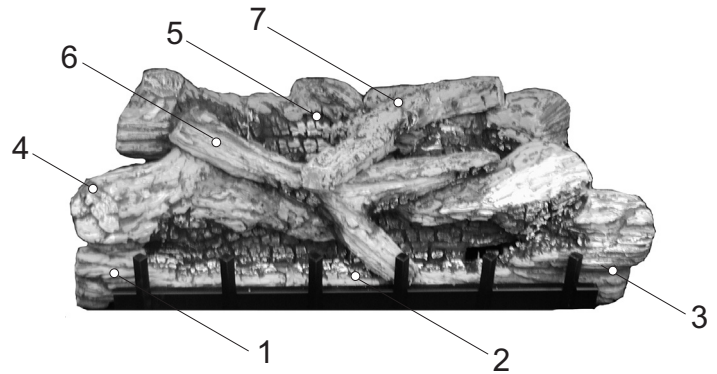
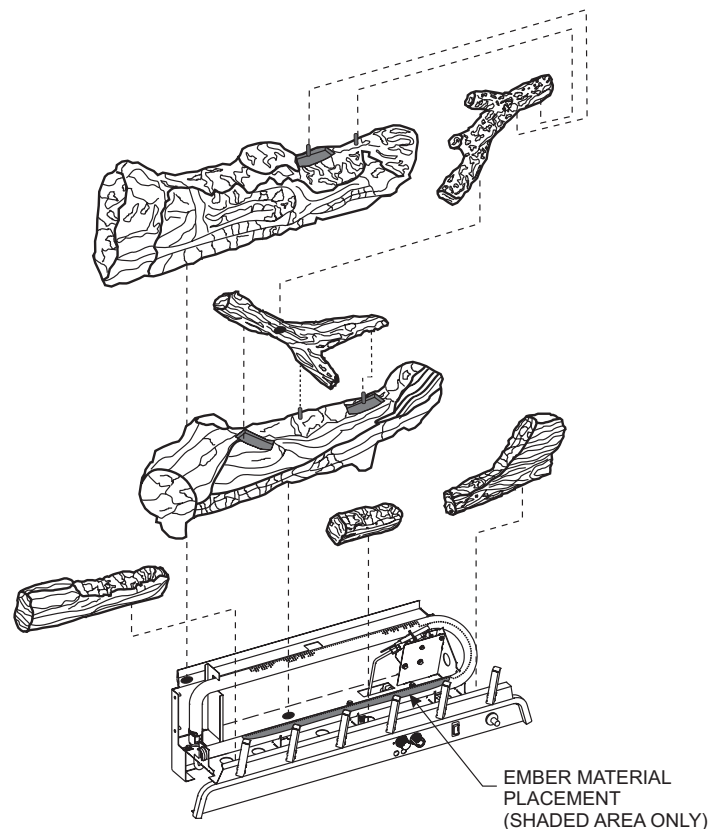

Figure 14
Figure 15
The positioning of logs is critical to safe and clean operation of this burner assembly. Sooting and other problems may result if the logs are not properly and firmly positioned on the burner assembly. Refer to **Figure 14** and **Figure 15** and corresponding **WARNING**: when completing following log placement steps.
6. After all logs are properly positioned, place small "dime" size pieces of Rockwool lightly across the front burner tube ports. Place the ember material (Rockwool pieces) side by side. Do not stack more than one layer of embers across the burner ports. No more than (1) one packet of ember material (part number 15999) evenly placed on the burner, is recommended on VFDR30 models. **See Figure 15.**
Attention: Do not use Figure 14 or Figure 15 to order logs. Refer to Parts Lists and Parts Views to order logs and/or ember material.